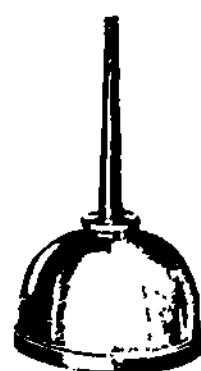

Figure 1-24.
- a) Figures 1-24 to 1-27 show four types of hand-operated oilers.